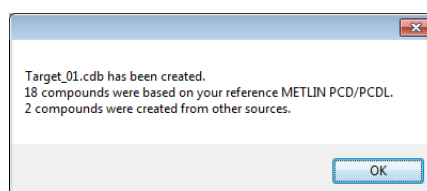

Figure 22 Summary information
- e Click **OK** after you have reviewed the summary information describing your custom PCD/PCDL (Figure 22).